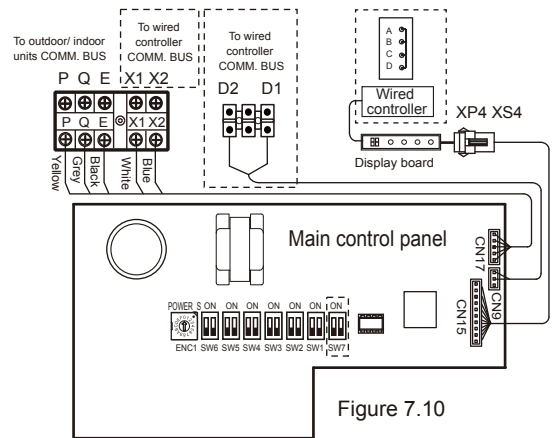

Figure 7.10
- The X1/X2, D1/D2 ports on the sides of the main control board and the unidirectional communication port (display board side) are for different types of wired controllers (see Figure 7.10).